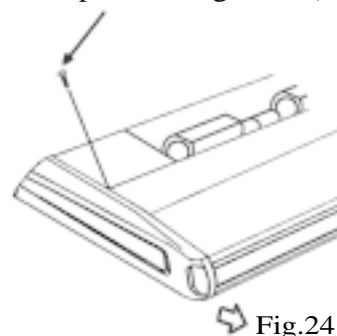

Fig.24
- Remove the side panel fixing screw and pull to the front direction (arrow direction) to remove. (Refer to Fig.24)